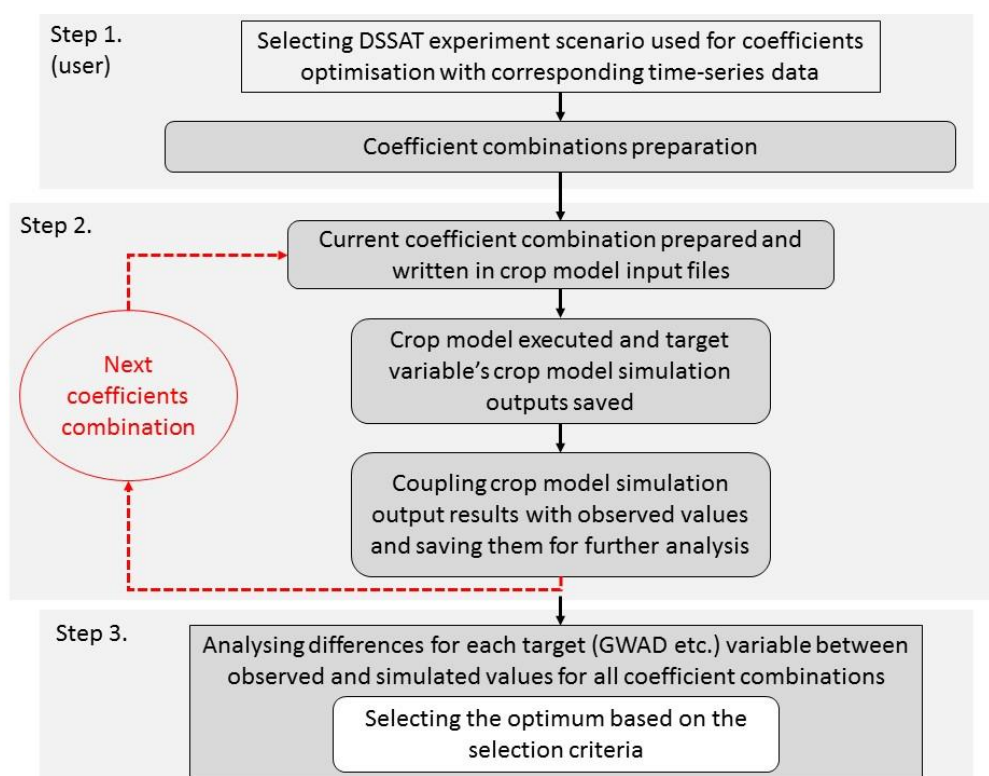

Figure 1: Flow chart showing overall program run in three steps (GWAD – grain weight) (Memic et al. 2021)
1. Selection of the File-X and corresponding treatments defined in File-X. Based on the selected experiment corresponding in-season observations (as time-series data) are read in as temporal inputs (all available time-series observations can be used), and cultivar coefficients designated for optimization (phenology- and/or growth-related) are selected with desired coefficient ranges (Figure 1, step 1).
2. For each cultivar coefficient combination defined in first step crop model is executed with simulated outputs being coupled with in-season observations and saved for later analysis (Figure 1, step 2).